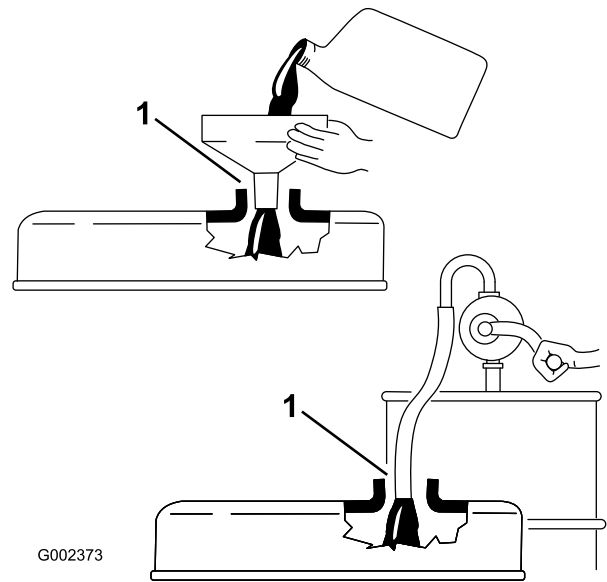

Figure 14
**Important:** When adding engine oil or filling oil, there must be clearance between the oil fill device and the oil fill hole in the valve cover as shown in Figure 14. This clearance is necessary to permit venting when filling, which prevents oil from overrunning into the breather.